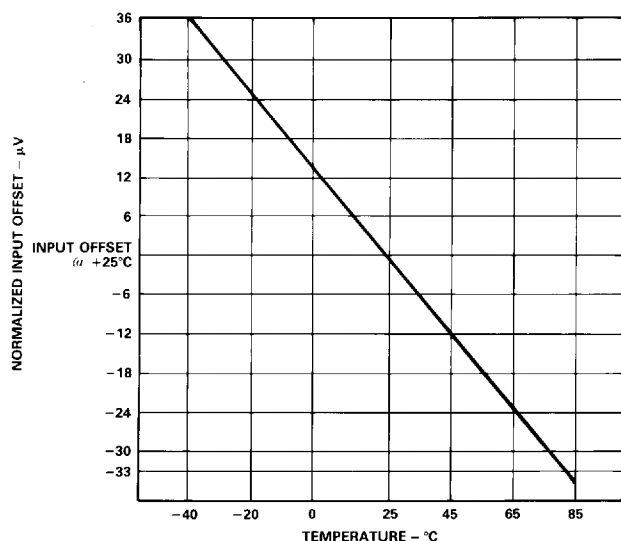

Figure 11. Normalized Input Offset Voltage (μV) vs. Temperature (°C), with  $V_S = 15$  V pk-pk, 25 kHz Square Wave
**Input Offset Voltage.** The AD208 exhibits an extremely low input offset voltage temperature coefficient over the -40°C to +85°C temperature range as indicated in Figure 11.